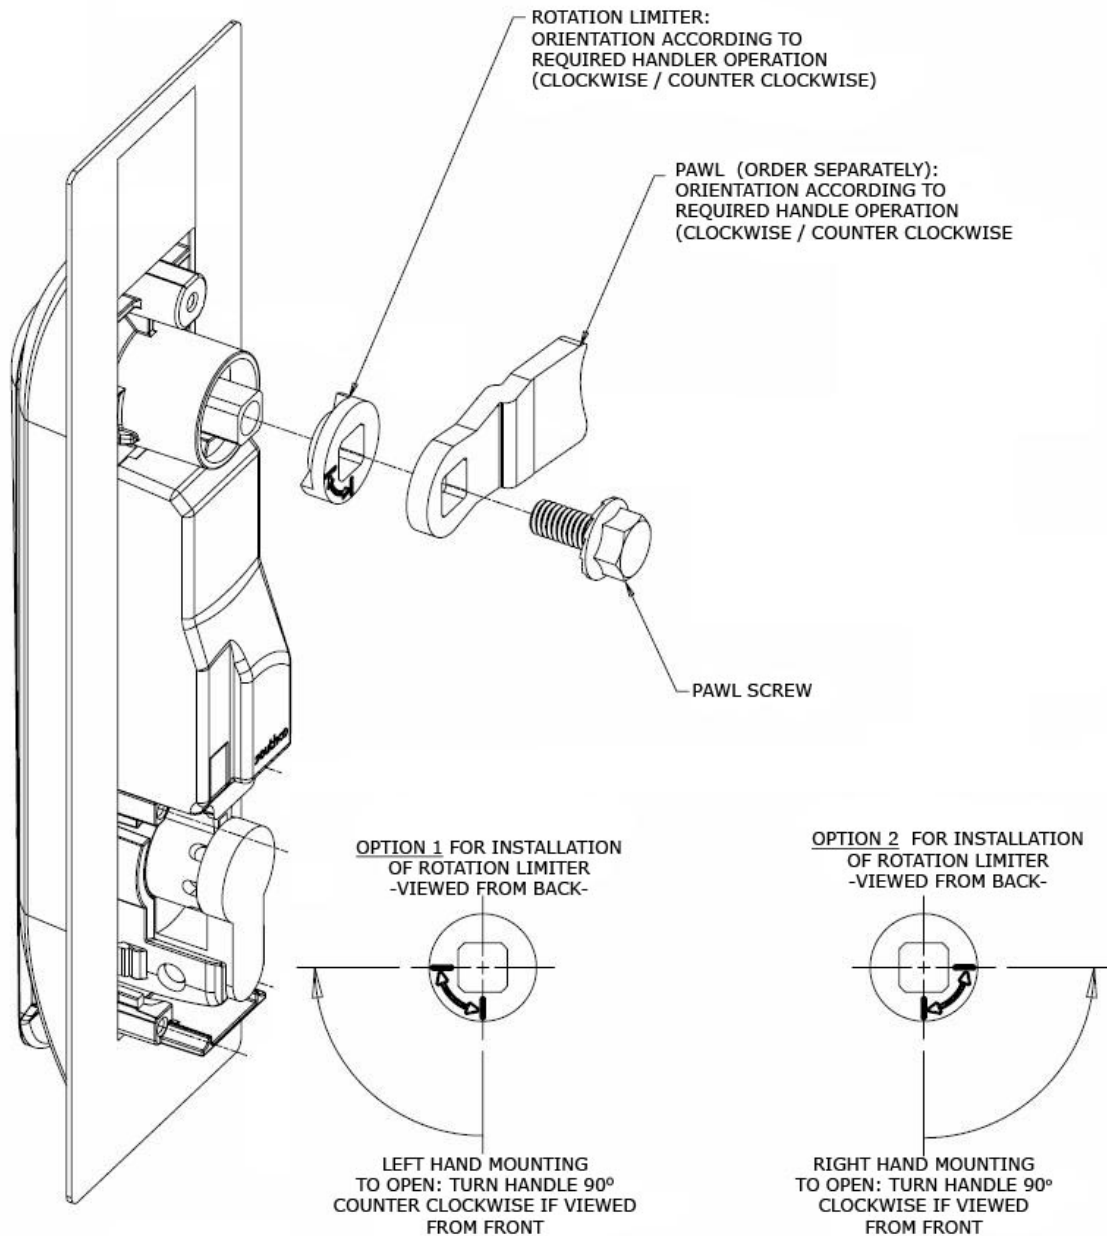

Figure 14
- The pawl is installed as shown in Figure 14. Pay particular attention to the Rotation Limiter. This is installed as shown depending on whether you have a right on left hand opening door.